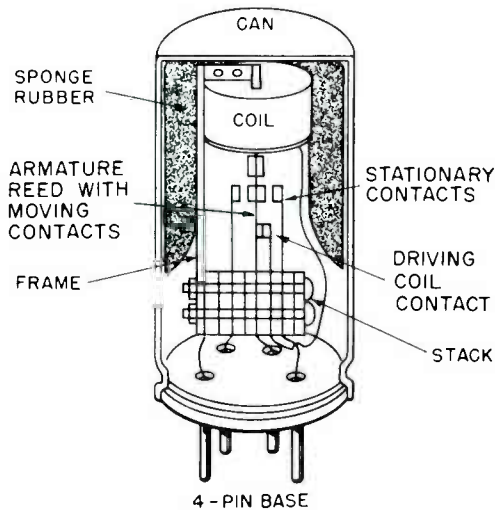

FIG. 2. A modern vibrator.
Fig. 2 shows a cutaway view of a vibrator. The parts are: (1) the frame, (2) the driving coil and driving coil contact, (3) the armature "reed" which carries the moving contacts, (4) the stationary contacts, on smaller reeds, (5) the stack, which consists of insulators and plates bolted together to hold the whole assembly in rigid alignment, and (6) the base.